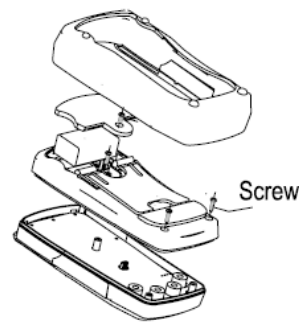

figure 9
K. REPLACING THE FUSES (SEE FIGURE 9)